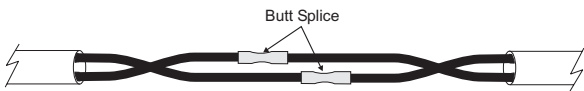

Figure 8. Crimp the Sensor Cable
3. Crimp on the two butt splices as shown in figure 8, using an approved crimp tool (Panduit CT-1550 or equal).